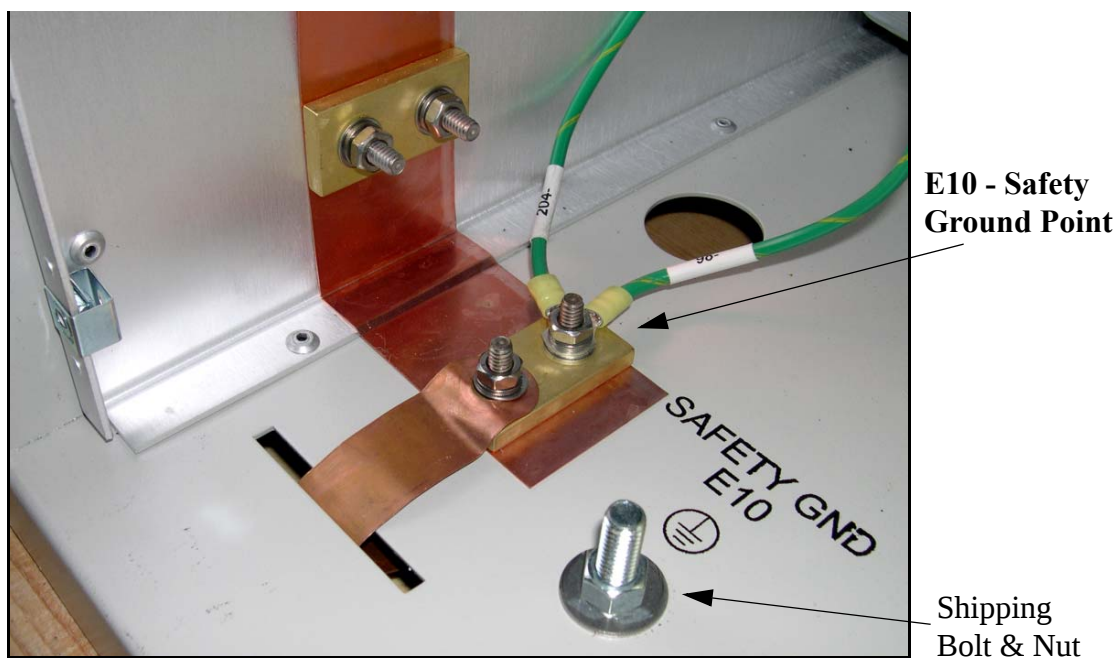

Figure 2-4
- STEP 6** Attach green neutral wire to E10 stud for safety ground (see Figure 2-4 on page 2-12)
STEP 7 Attach ground wire to E10 stud for safety ground (see Figure 2-4 on page 2-12)